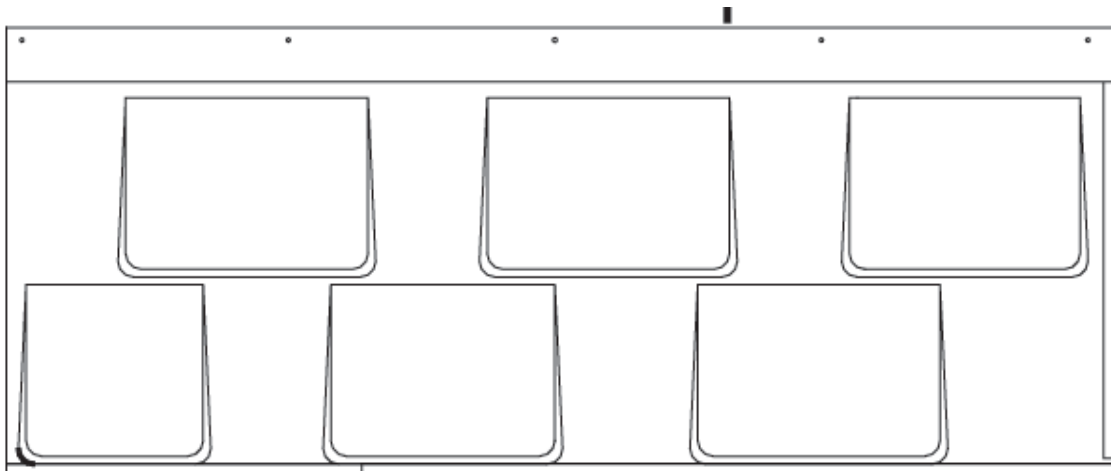

FIGURE 1: *ADVANTA® SHINGLE ROOF PANEL*
**3.2** Profiles – Advanta® Shingle Roof Panels are 14 inches by 36-½ inches with a 12 inch by 36 inch exposed area. The installed weight is 0.95 psf. See Figures 1 and 2.